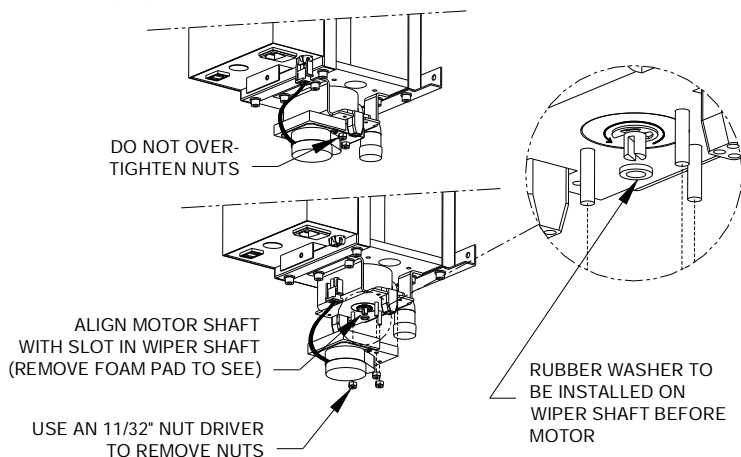

Figure 4C
Step 5: Disconnect the wiper motor (5) from the bottom bracket (22) by undoing the three nuts. See Figure 4C. Pull off the motor plate and foam pad (21) from the mounting standoffs and unplug the motor. Set the motor aside, holding it by the body, not the wires. **Do not place the motor in any location where it can be exposed to moisture.**
Step 6: Remove the bottom Bracket (22) by undoing the four fasteners in an alternating pattern (top left, bottom right, bottom left, then top right). The bottom End Cap (23) will drop as the bracket is removed. Support the quartz sleeve as you remove these two items.
Step 7: Remove the quartz sleeve by removing the top and bottom O rings (24). Lift the quartz sleeve out of the unit.
Step 8: Inspection of wiper seals can be done now. This is a two-step process. First, remove the rubber washer (20) and shaft retaining ring (18) and place them in a safe place. Second, lift the shaft adapter (6A) out of the bottom End Cap (23). Check the U-cup seal (27) Wiper O ring (25) – replace/clean if necessary. Re-install shaft adapter (6A). Replace the wiper retaining ring (18) by inserting it into the grooved area on the shaft adapter. Replace the rubber washer (20).
Step 10: Replace the top and bottom O rings (24), keeping the quartz centered vertically in the unit.
Step 11: Replace the bottom End Cap (23) and bottom Bracket (22) by installing the four fasteners in an alternating pattern (top left, bottom right, bottom left, then top right) (**lock washers must be installed**). Ensure that the welded elbow is at the backside of the unit. Ensure that the bottom End Cap (23) sits centered in the bottom Bracket (22).